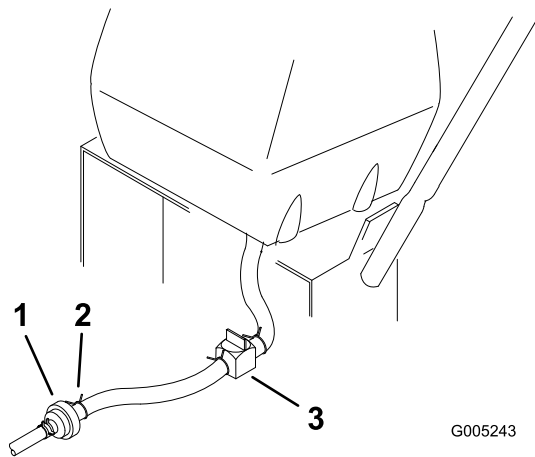

Figure 27
2. Close the fuel shut-off valve at the fuel tank (Figure 27).
3. Squeeze the ends of the hose clamp together and slide it up the fuel line away from fuel filter (Figure 27).
4. Pull the fuel line off the fuel filter (Figure 27). Open the fuel shut-off valve and allow the gasoline to drain into a gas can or drain pan.